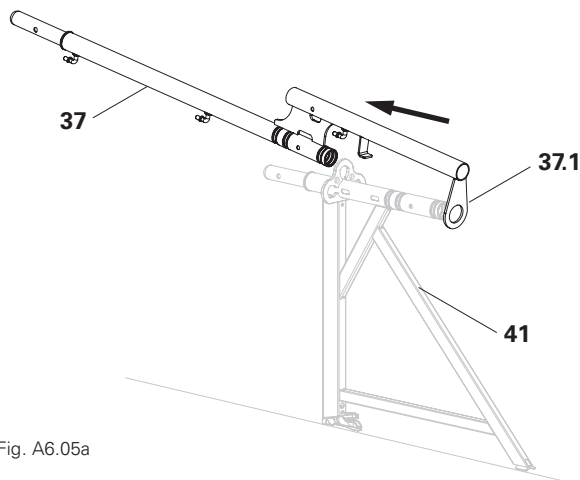

Fig. A6.05a
1. Slide the loop (37.1) of the Protection Panel Post EPS (37) onto the lower tube end of the console bracket (41). (Fig. A6.05a)